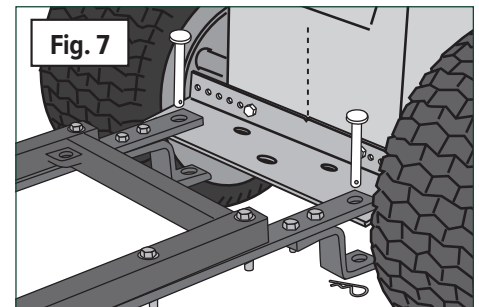

Fig. 7
6. (Fig. 7) Hitch the chassis to the mower by aligning the holes in the hitch forks with the holes in the hitch bar. Then, drop the two 4" hitch pins in place. Put the bridge pins through the bottom holes in the hitch pins to secure them.